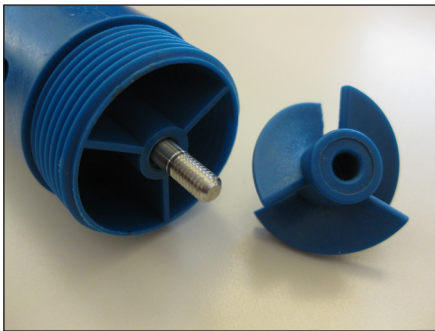

Figure 11
7. Thread the diffuser (item 17) completely onto the bottom of the outer tube (item 16). Hand tighten. Thread the impeller onto the shaft by hand. While holding the half coupling with the other hand, turn the impeller clockwise (right hand thread). *See figure 11.* Install the diffuser cover (item 19) onto the diffuser turning counter clockwise (left hand thread). Hand Tighten. *See Figures 12 & 13.*